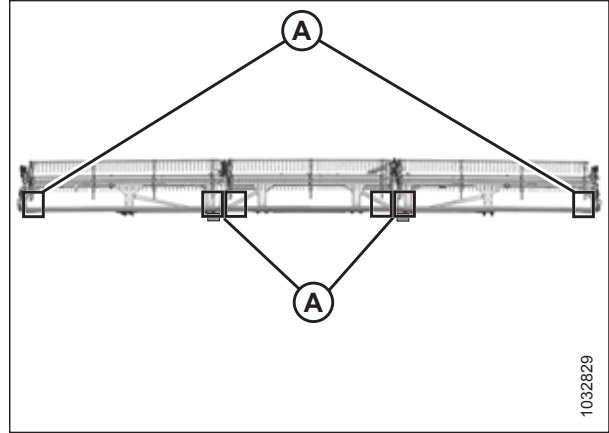

Figure 7.34: FlexDraper® Measurement Locations – Triple Reel
- Figure 7.34, page 182 – triple reel